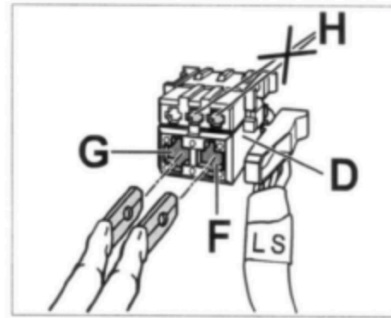

Figure 6
Voltage must not be applied to the narrow flat plug receptacles on the connector for seat fore/aft adjustment (Figure 6 - item H).
- 7 Insert one wire of the workshop-made jumper lead with the flat plug into each of the two **6.3-mm wide flat plug receptacles** (⇒ *Figure 6* -item F and G-) on the connector for seat fore/aft adjustment.